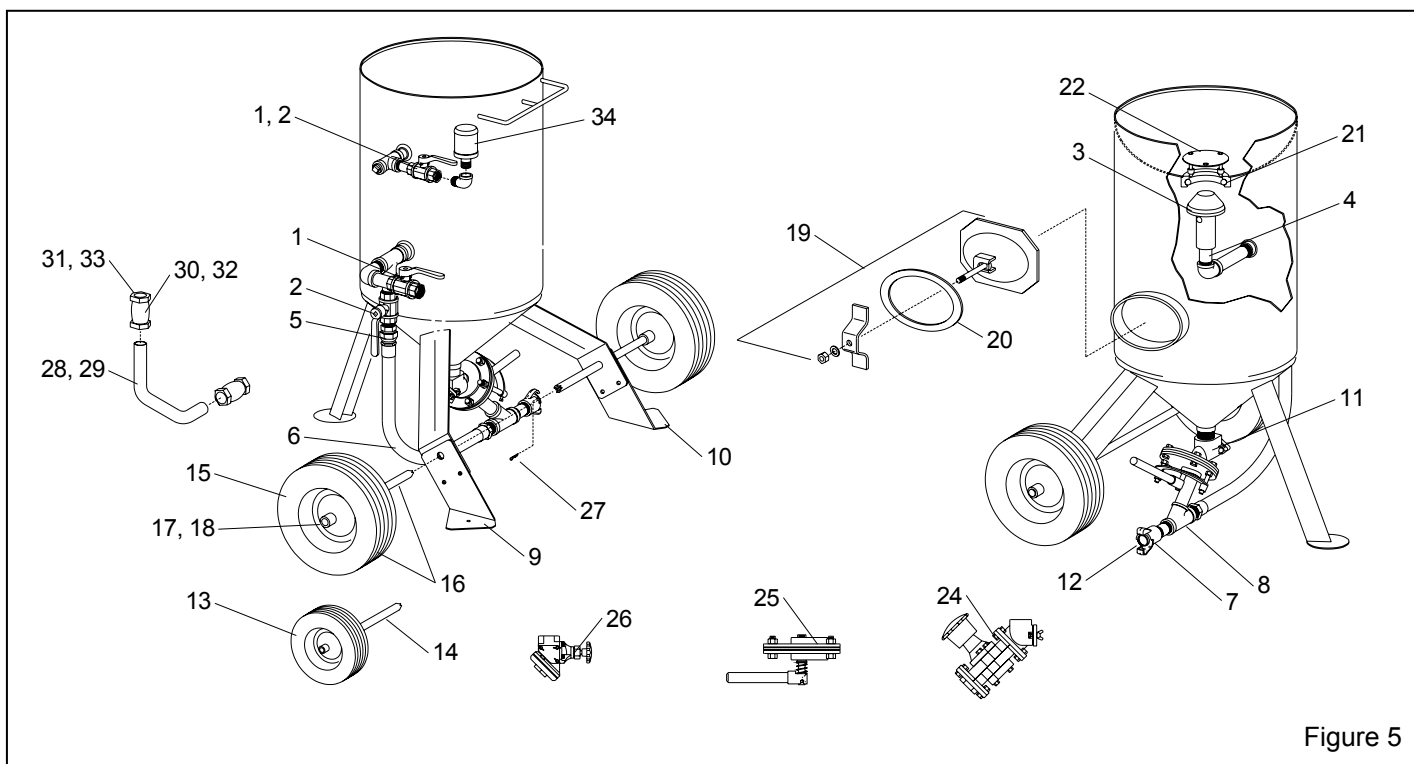

Figure 5
7.2 Blast Machine and Accessories, Figure 5